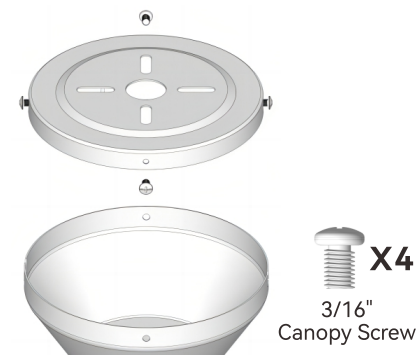

Fig. 3.1
3.1 Carefully flip the fan over. Loosen the canopy screws and remove the mounting plate. Save the screws for later use as shown in Fig. 3.1.